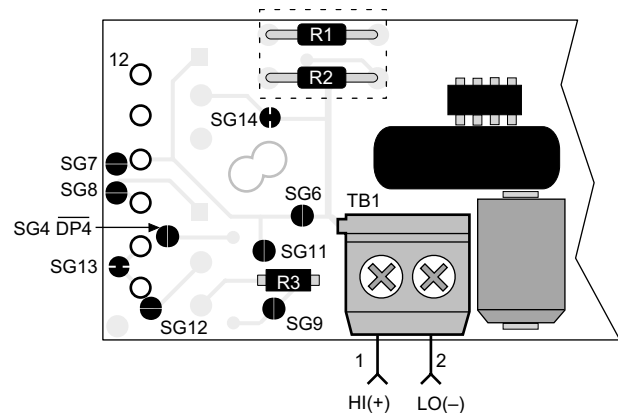

Figure 4. R1 and R2 Installation
**3. Input Resistor Dividers** (See Figure 4): Use 1%, or better, metal film resistors for R1 and R2 in DMS-30 applications, and 0.5%, or better, in DMS-40LCD applications. Make sure the resistor's power and voltage ratings are adequate for the given application. Using tight-tolerance resistors in input scaling circuits allows most calibration adjustments to be made with the meter's internal rear-mounted potentiometers, through the access holes provided (see Technical Note 5 below).